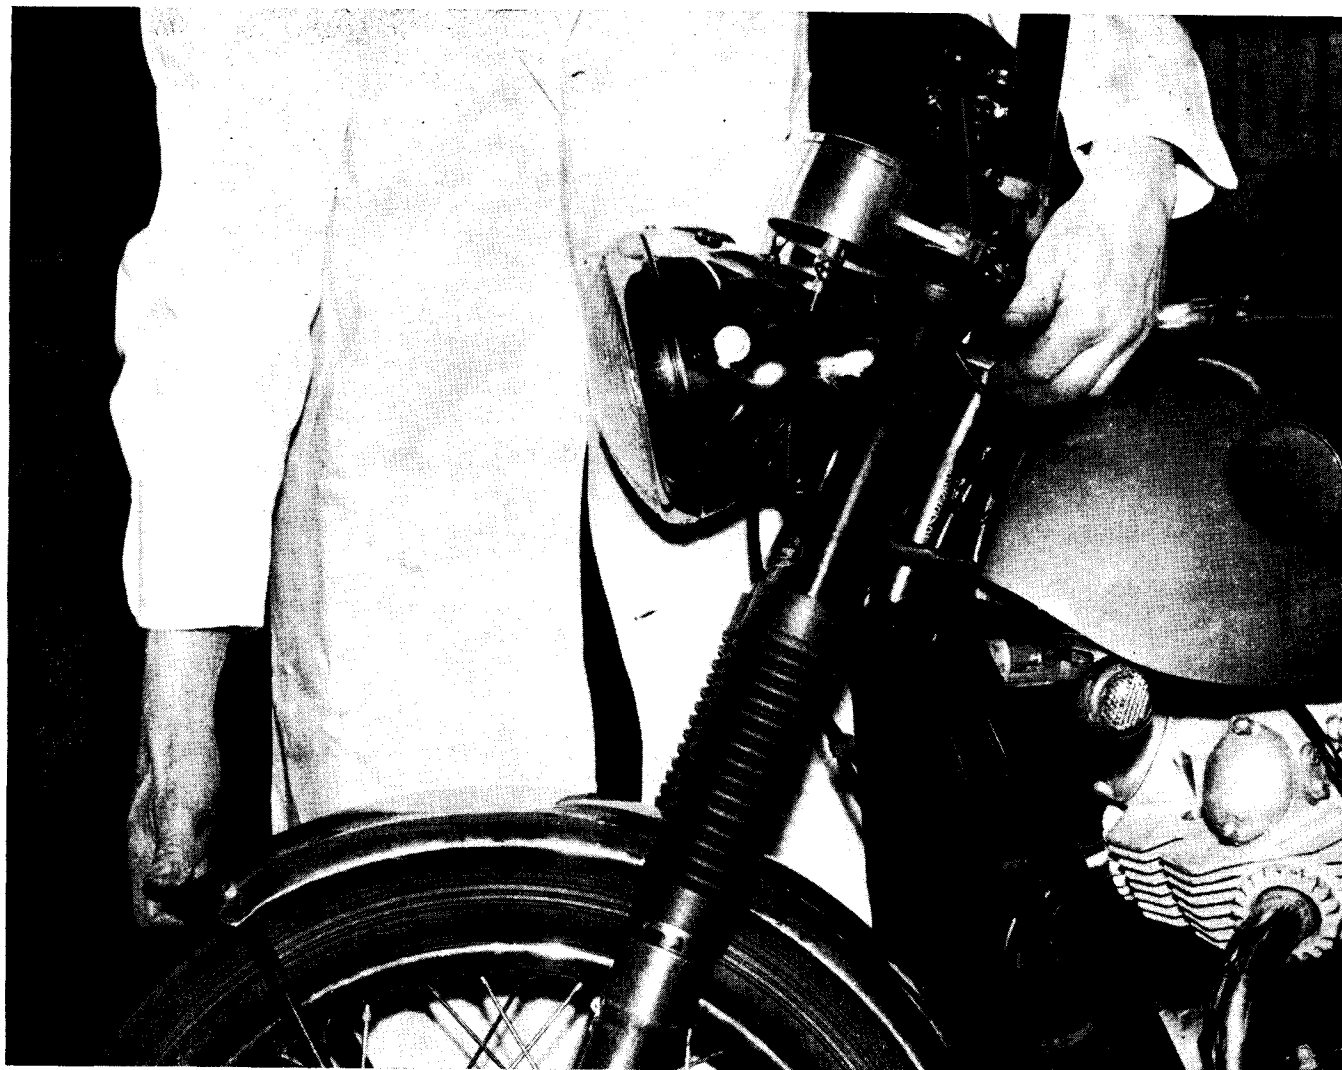

FIG. 34 *Checking Steering Head Bearings*
1. Raising the front wheel clear of the ground as shown in Figure 34. Place the fingers of the left hand on the point where the handlebar lug meets the top part of the frame head lug.
3. To adjust the bearing; to eliminate movement, release both fork tube clamping nuts (28) release slightly the fork crown and column nut (37).
5. Tighten the column nut (37), the two clamping nuts (28).